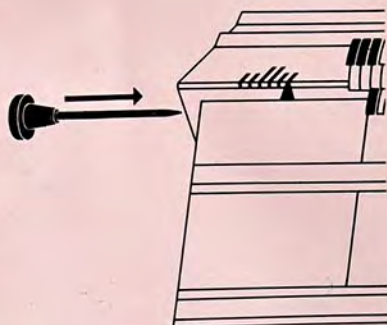

Fig. 7
7. Insert fixing bolts right and left into openings provided at back bed, fig. 7.